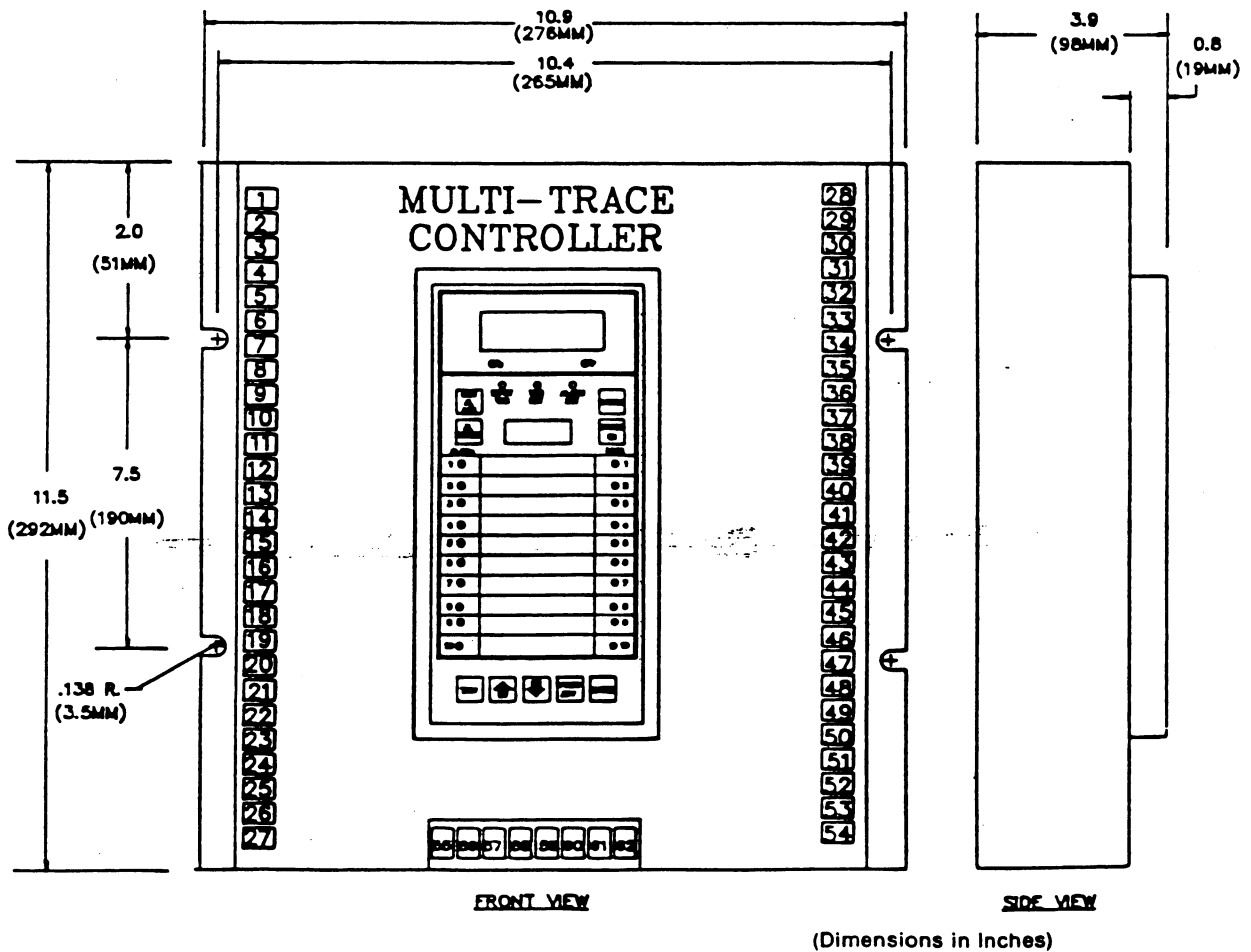

FIGURE 4-2. SUBPANEL MOUNTING DIMENSIONS
1. Make panel cutout in panel door (3.3" x 6.0") and drill four holes for mounting bolts (1/4" bolts and lockwashers recommended). Refer to Figure 4-2 for Mounting Dimensions.